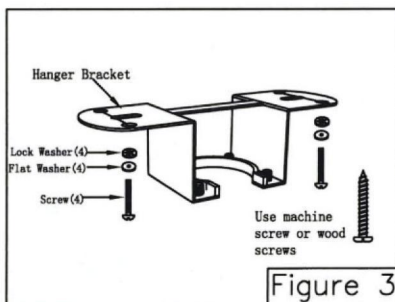

Figure 3
- Loosen the two set screws in the downrod support of the motor assembly. Route the black, white and blue wires through the downrod. (Figure 3)
- Lastly, connect blue wire from receiver unit to the blue fan light wire using wire connector supplied with receiver unit. (Figure 3)
Securely attach the hanger bracket to the outlet box using the outlet box screws and washers supplied with the outlet box. (Figure 3)